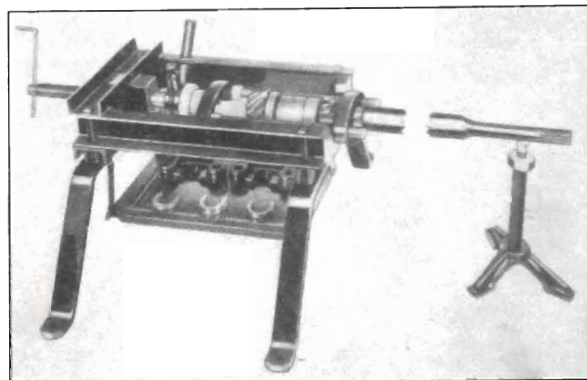

Fig. 4-16. Pinion Press, J-1292-B
2. Pull the pinion shaft from the propeller shaft, using puller J-1292-B. See Fig. 4-16.